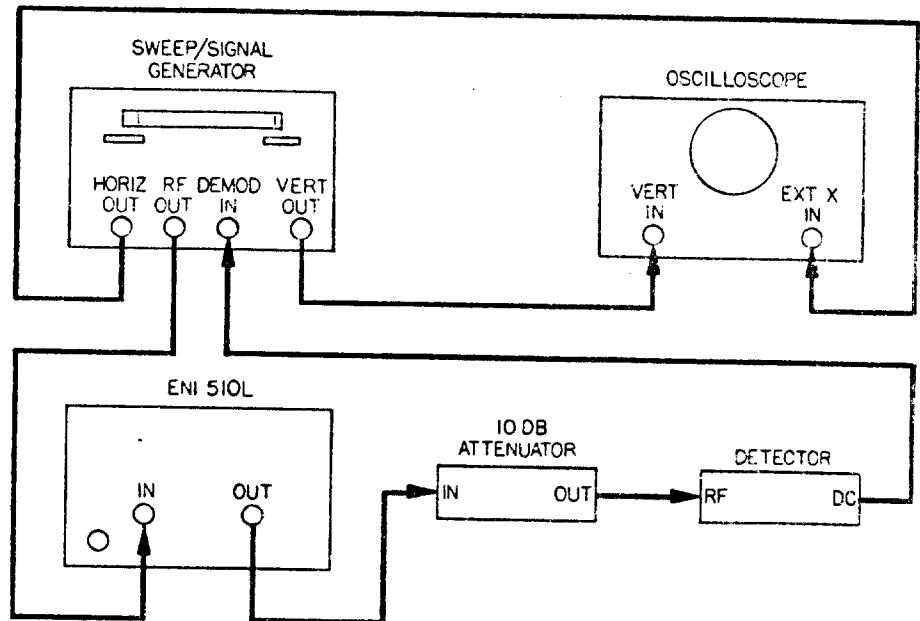

Figure 4-1 Gain Measurement
Connect the equipment as shown in Figure 4.1, then proceed as follows:
- (g) Reconnect the 510L into the test set-up of Figure 4.1.